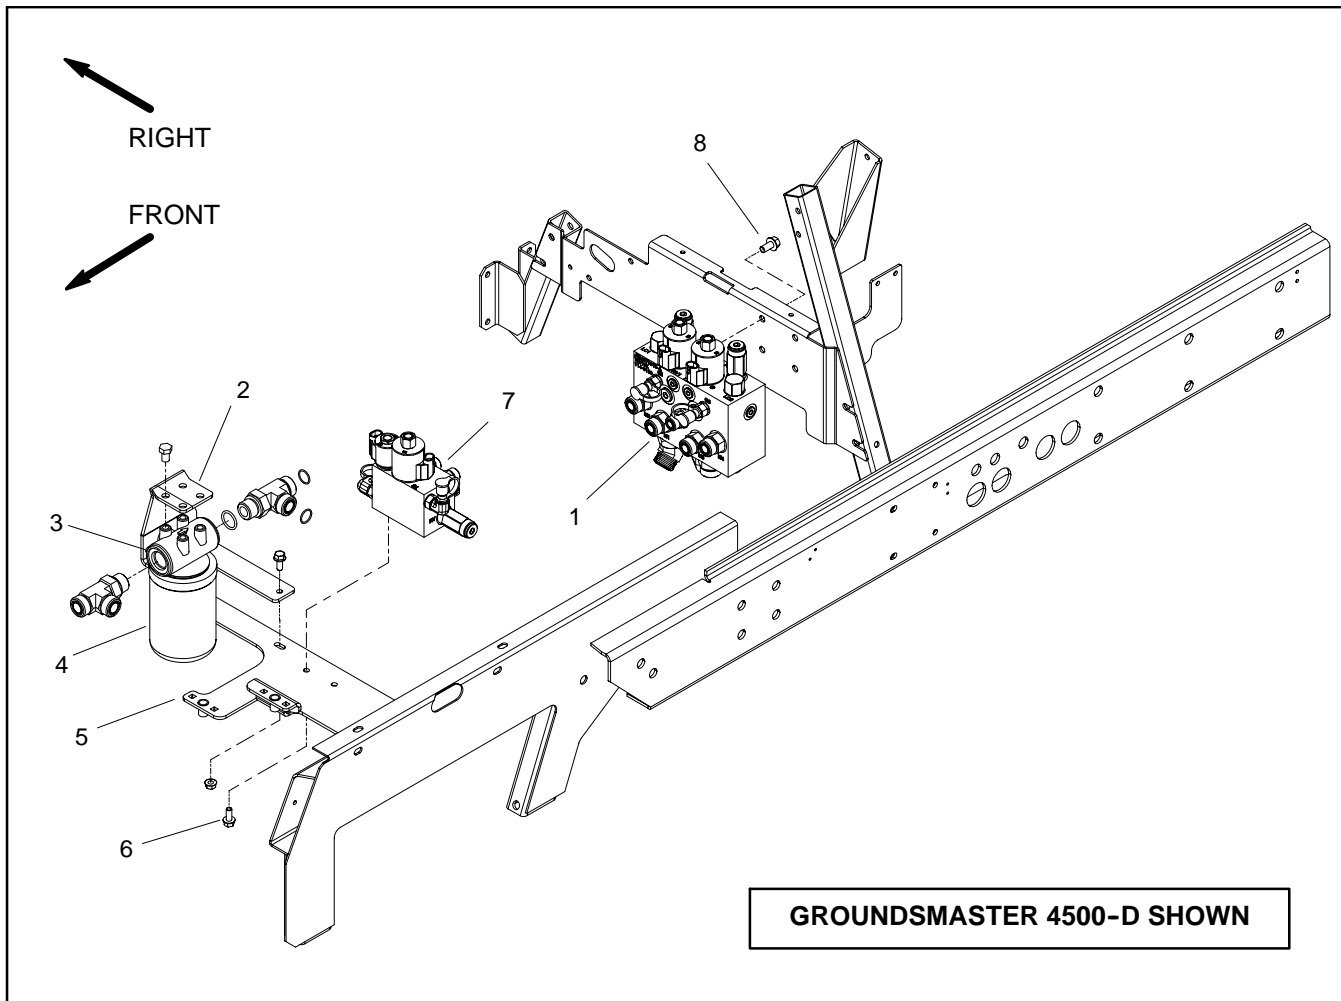

Figure 78
NOTE: The deck control manifolds used on Groundsmaster 4500-D and 4700-D are different but they mount to the machine in the same location. The control manifolds used on the Groundsmaster 4500-D are shown in Figure 78.
Removal (Fig. 78)
7. Remove hydraulic manifold from the frame using Figure 78 as guide.
Installation (Fig. 78)
2. Install hydraulic manifold to the frame using Figure 78 as guide.